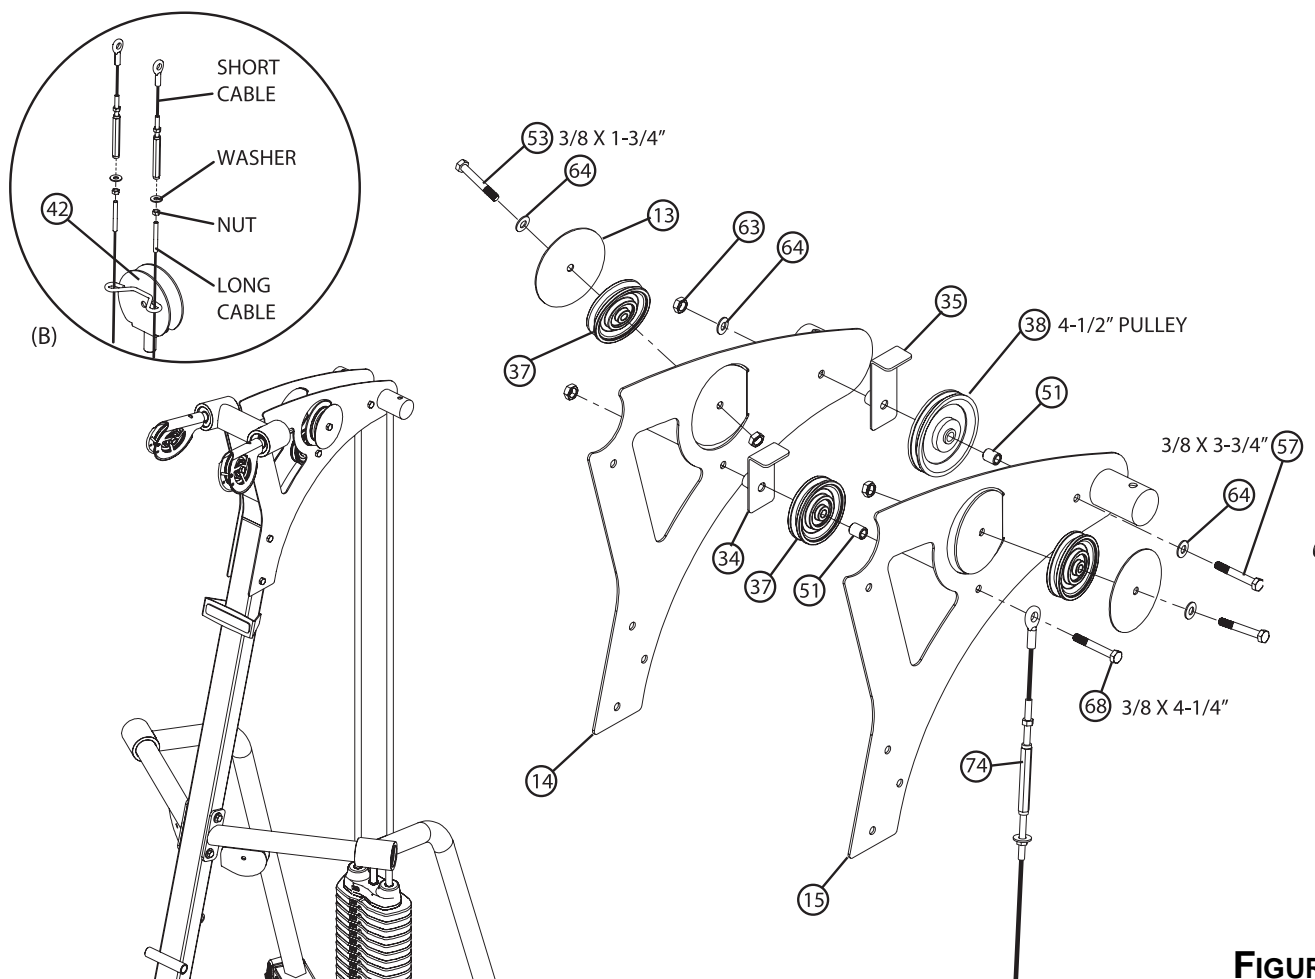

FIGURE 9
- Detach the Short Cable from both REAR GUIDE CABLES (74) as shown in Figure 9 (B).
- Slide the Long Cables of the REAR GUIDE CABLES (74) through the eyelets of the GUIDE BRACKET (42) as shown in Figure 9 (B). Reattach the Short Cable of the REAR GUIDE CABLES (74) to the Long Cable, leaving the GUIDE BRACKET (42) loose.
- Assemble two BOOM PULLEY PLATES (13) and two 3-1/2" PULLEYS (37) to the RIGHT and LEFT BOOM PLATES (14 & 15) using two 3/8 x 1-3/4" BOLTS (53) and two 3/8" SILVER LOCK NUTS (63). See Figure 9.
- Loosely assemble one 4-1/2" PULLEY (38), one 4-1/2" CABLE GUARD (35) and one 1" SPACER (51) to the RIGHT and LEFT BOOM PLATES (14 & 15), using one 3/8 x 3-3/4" BOLT (57), one SILVER 3/8" LOCK NUT (63), and two 3/8" WASHERS (64).
- Loosely assemble one 3-1/2" PULLEY (37), one 3-1/2" CABLE GUARD (34), one 1" SPACER (51) and both REAR GUIDE CABLES (74) to the RIGHT and LEFT BOOM PLATES (14 & 15), using one 3/8 x 4-1/4" SILVER BOLT (68), one 3/8" SILVER LOCK NUT (63), and two 3/8" WASHERS (64).